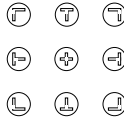

Figure 27: Preset Position Control Keys
- Using the preset position control keys (see Figure 27) on the infra-red remote control transmitter (see Figure 16), which instantly move the position of the zoom to up to nine preset fixed locations¹